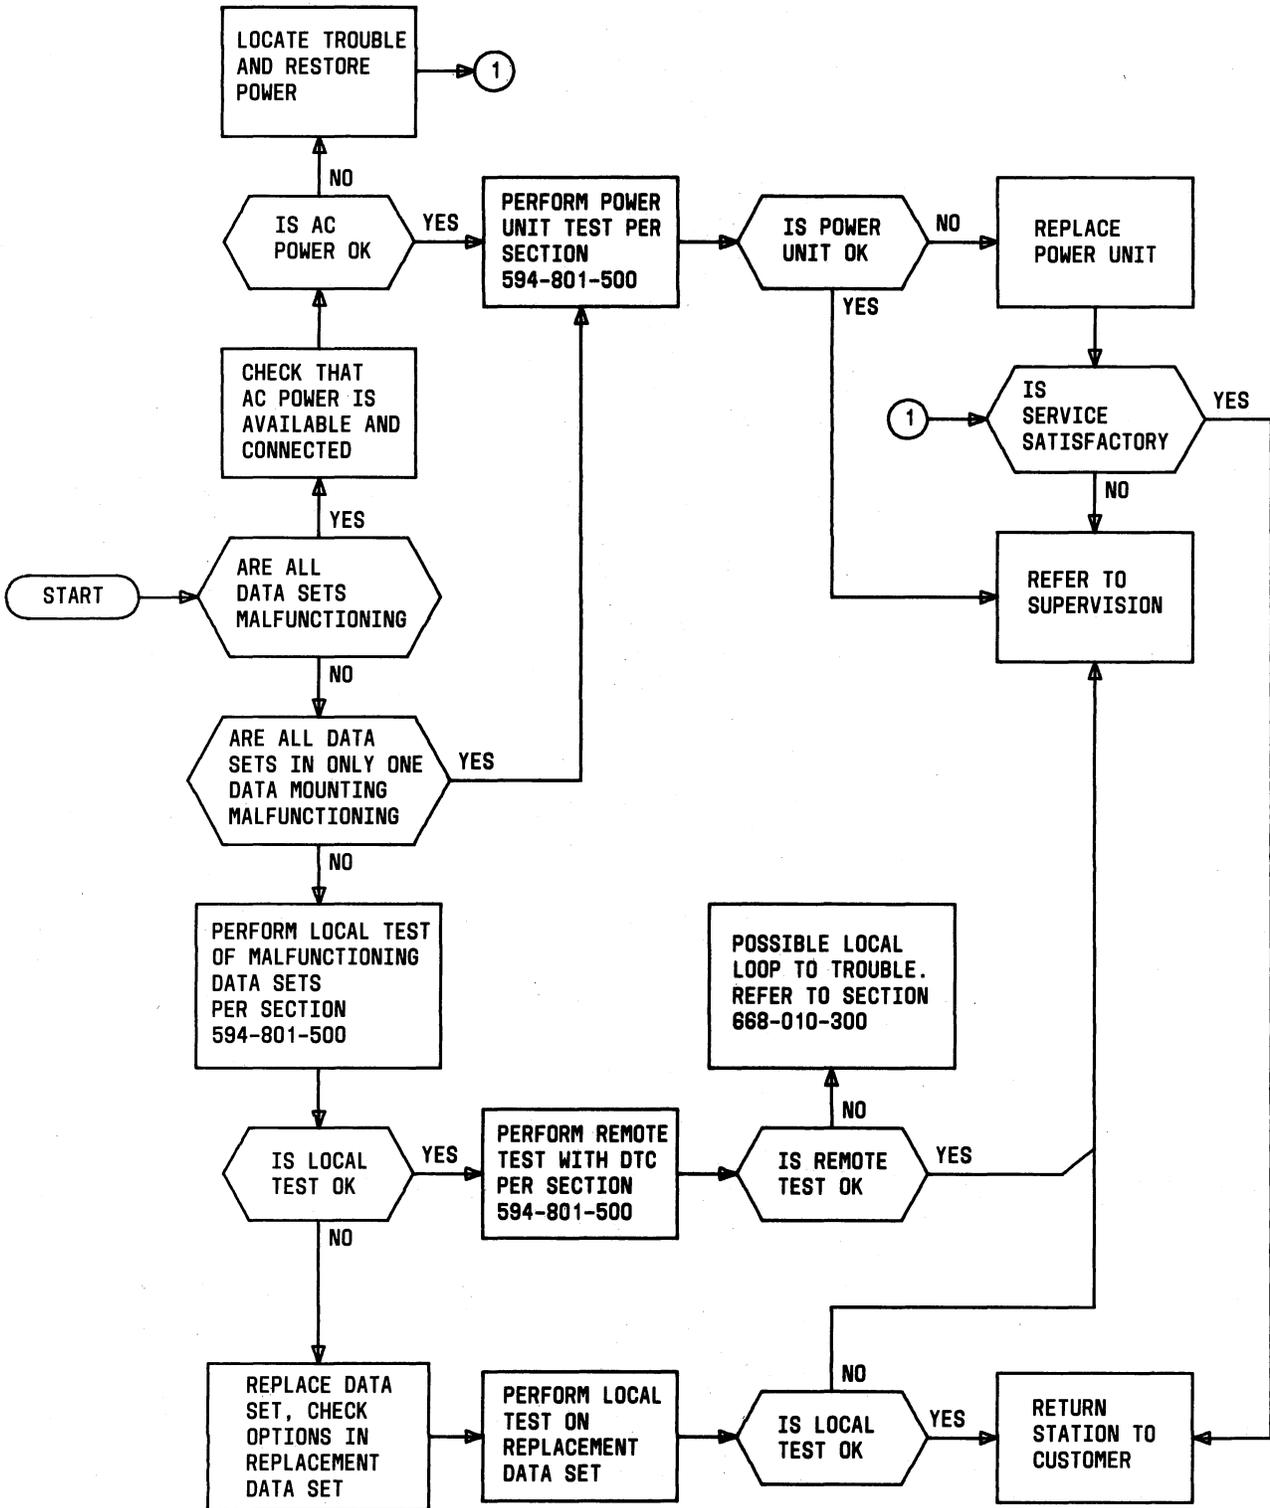

Fig. 1—Troubleshooting Flowchart for 407AR and 407BR Multiple Data Stations
4.01 Troubleshooting the 407AR or 407BR multiple data station should be in accordance with the flowchart shown in Fig. 1. The flowchart is a recommended procedure to follow when investigating system trouble. The diamond represents a decision to be made, while the circles provide a means of referring to another information block in the flowchart.